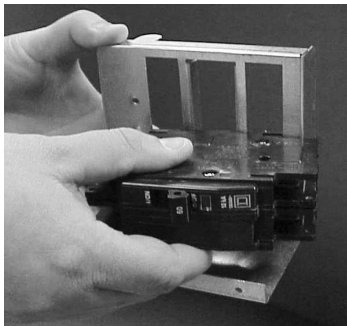

Figure 3. Installation of Circuit Breakers
- Snap the circuit breaker onto the circuit breaker bracket. The circuit breaker must be positioned with the 1/4" tab terminals to the right as shown in Figure 3 \(page 8\).